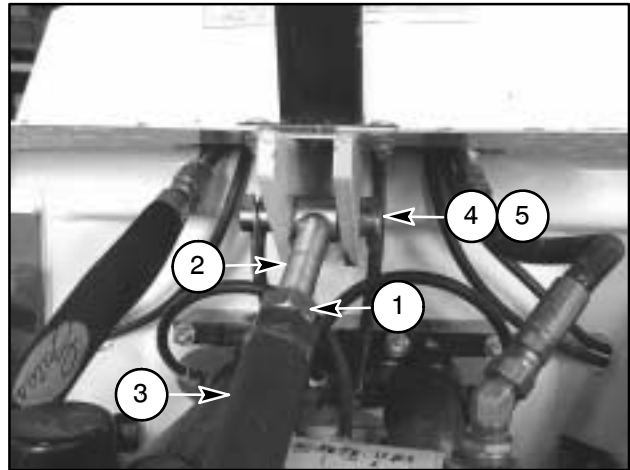

Figure 14 Top Link to Backhoe Installation
1. Assemble inner top link (2), 1" hex nut (1), and outer top link (3).
2. Attach top link (inner link end) to backhoe mainframe with 1.0 x 4.5 clevis pin (4) and klik pins (5) as shown in Figure 14.